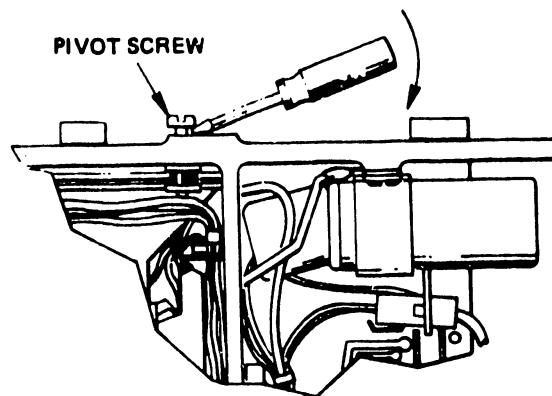

Figure 7-1 Cartridge Guide Removal
- c. Pull up on the upper pivot cap screw until the shoulder contacts the base casting (Ref. Figure 7-1). Push up on the cartridge guide until the lower pivot clears the casting.